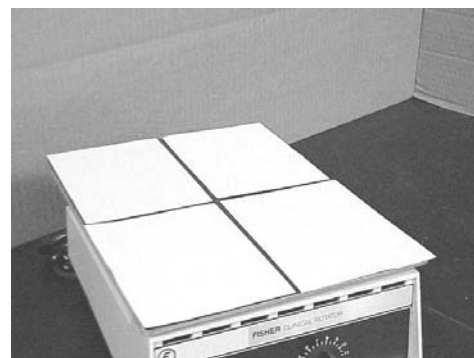

Figure 2. Positioning Diagnostic Cards
2. Place up to four 5 x 3.75 diagnostic cards (figure 2) on the rubber-matted platform.